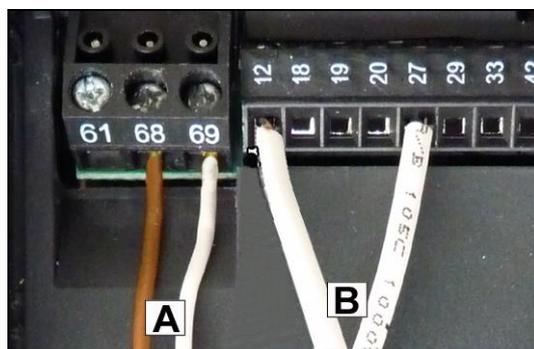

Fig. 3.36
7. Disconnect the communication wires **A** and the motor's thermal protection wires **B** (Fig. 3.36).
8. Disconnect the earth wires **A**, the power supply wires **B** and the output wires to the motor **C** from the inverter (Fig.3.36). 3.37).